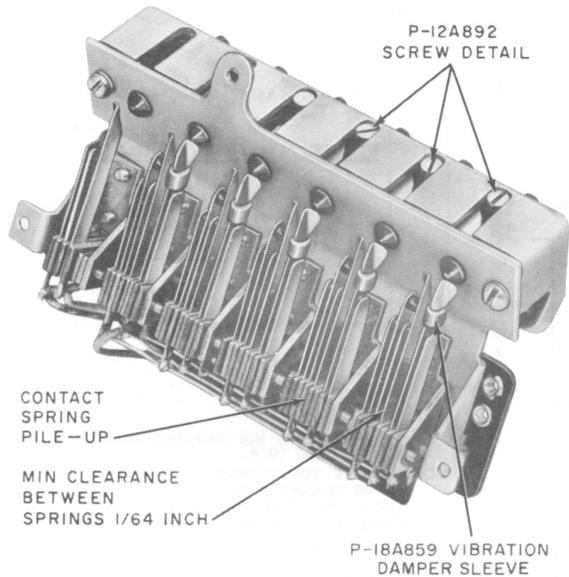

Fig. 4—589-Type Key, Bottom View
- Replacing loose or missing damper studs with P-18A859 vibration damper sleeves (Fig. 4). Later 589-type keys do not require this vibration damper.
2.15 Contact follow and separation is obtained by using a 363 tool at a point adjacent to contact spring pile-up (Fig. 4). When adjusting springs:
- (a) There should be a minimum spring clearance of 1/64-inch between contact springs and those parts of the key which do not make contact with springs (Fig. 4).